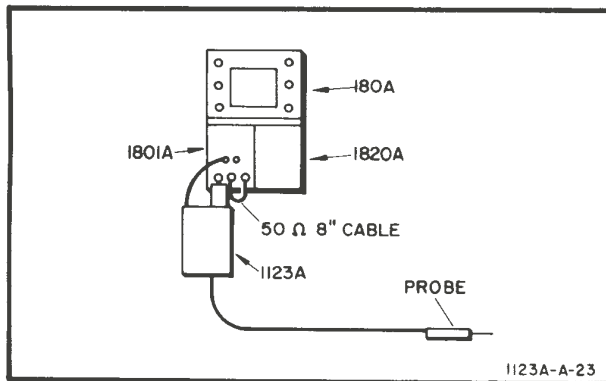

Figure 5-8. Noise Test Set-up
- a. Connect the equipment as shown in Figure 5-8.